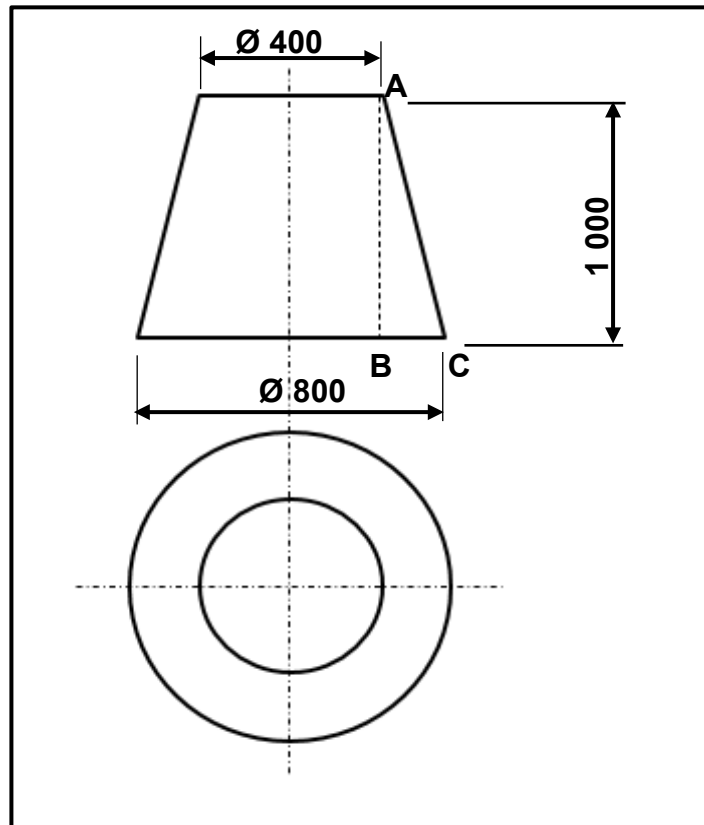

FIGURE 11.1
- 11.1 FIGURE 11.1 below shows a cone with a base diameter of 800 mm, a top diameter of 400 mm and a vertical height of 1 000 mm. Answer the questions that follow.